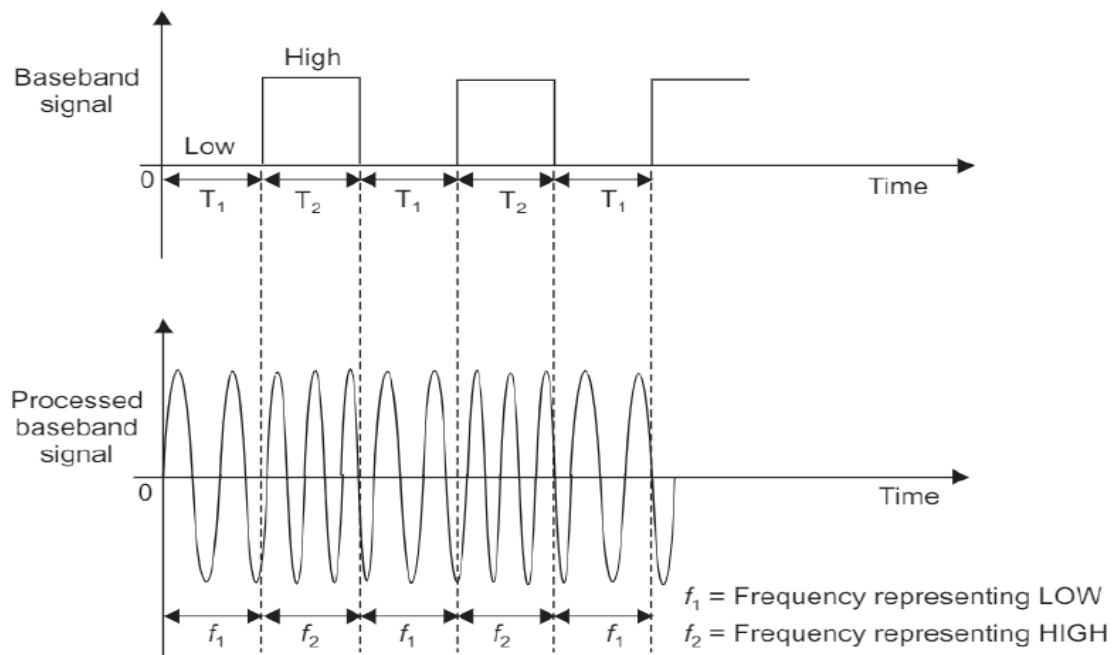

Fig: 4.4 The processing of a baseband signal
- The baseband signal is converted into a corresponding series of sine waves of two different frequencies prior to transmission. Figure 4.4 illustrates this processing.